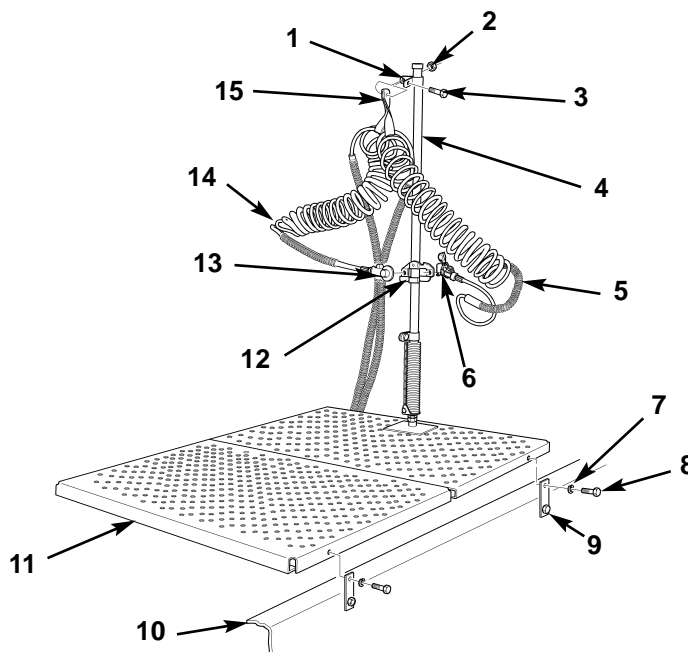

Figure 1. Disconnecting Air Hoses and Removing Service Deck.
1. Remove nut (figure 1, item 2), screw (figure 1, item 3), and strap (figure 1, item 15) from clamp (figure 1, item 1) on air hose tender (figure 1, item 4)
2. Disconnect emergency air pressure coupling (figure 1, item 13) and service air pressure coupling (figure 1, item 6) from storage brackets (figure 1, item 12) on air hose tender (figure 1, item 4). Set air hoses (figure 1, items 5 and 14) on spare tire carrier.
3. Remove four bolts (figure 1, item 8) and lockwashers (figure 1, item 7) from service deck assembly (figure 1, item 11) and four tabs (figure 1, item 9). Remove service deck assembly (figure 1, item 11) from tractor frame (figure 1, item 10).